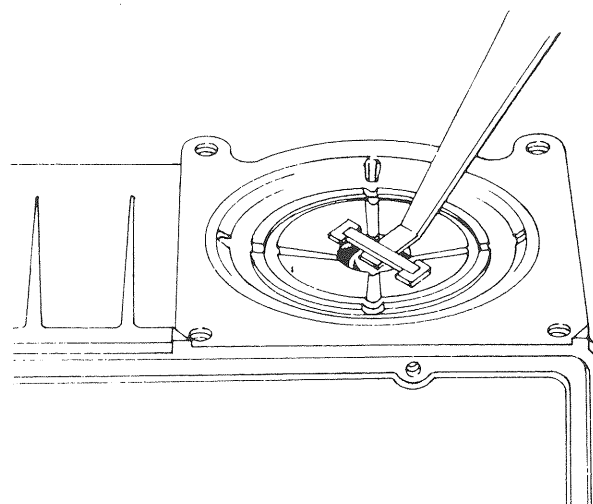

FIG. 37 Checking Pump Intake Ball Valve Clearance
2. If ball type, check for proper ball clearance under retaining bar (Figure 37).